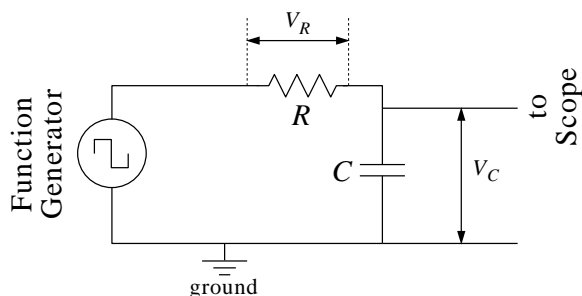

Figure 5.3: Experimental setup to determine the time constant of an  $RC$  circuit.
How can we measure the time constant in the laboratory? The theory indicates that, if we could measure  $Q$ ,  $V$ , or  $I$  as a function of time, the time constant  $\tau$  could be determined by fitting the theoretical equation (for  $Q(t)$ ,  $V(t)$ , or  $I(t)$ ) to the experimental data. Either the charging or discharging of the capacitor, or both, could be used. The circuit shown in Figure 5.3 will allow you to measure the voltage,  $V_C$ , across the capacitor; or if the capacitor and resistor are interchanged, you may measure on the oscilloscope the voltage across the resistor,  $V_R$ . (Why is it necessary to interchange these components, rather than just move the oscilloscope leads?) If you measure  $V_C$ , then  $Q$  may be obtained from  $Q = V_C C$ . If you measure  $V_R$  then  $I$  is obtained from  $I = V_R/R$ . In this lab you will measure  $V_C$  as a function of time, and then fit the resulting data to the expected exponential form Eq. 5.14.
6. Rearrange your circuit to measure  $V_R$ . Note that since the scope measures voltage relative to ground, we must arrange the circuit so that one end of the resistor is at ground and the other end is attached to the scope probe. Thus the desired circuit will have resistor and the capacitor swapped compared to the circuit in Figure 5.3. The easy way to swap the  $R$  and  $C$  components is actually to just reverse the leads from the function generator. . . Can you see why this works?